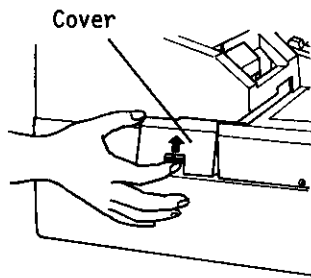

Fig. 1
1. Remove the Receipt Cover by pulling it upward (Fig.1 on the previous page).